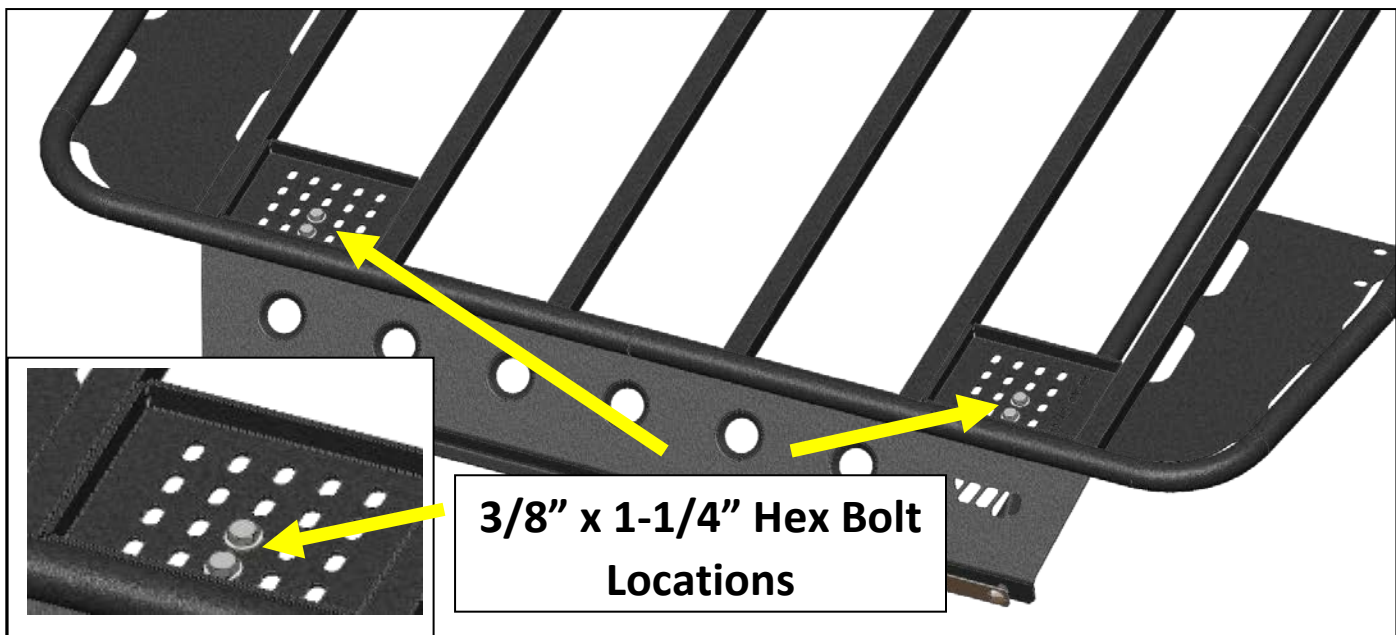

Figure 1 – Platform Hex Bolt and Load Plate Locations
11. On one side of the rack, position [4] 3/8" x 1-1/4" hex bolts. First place a washer on each bolt, then proceed to place the bolts through the platform rack in the locations shown below (**Figure 1**). The bolts ***MUST*** be placed through the 2 ***outer-most*** mounting slots closest to the bed rail. For best load distribution, the front-to-back placement of the bolts should be through the center row (of 5) as shown. However, if you have a particular application in which you would like to shift the platform forward or backward on the mounts, you may use alternate rows of mounting slots (be aware the bolts must always be in the ***outer-most*** slots, and that the weight distribution of the loaded rack may be uneven, and potentially less stable). On the underside of the mount place a washer on each bolt and loosely thread on the Nyloc nuts.
3. Locate the "long" slots on the Tie Bar end plates and slide them over the Carriage Bolt thread between the washer and the Bed Rack Mount. See **Fig. 1**.
4. Rotate the Tie Bar up so that the second "short" slot is aligned with the second Carriage Bolt thread. See **Fig. 1**.
5. Slide the Tie Bar "short" slot over the second set of Carriage Bolt threads (with the end plate between the washer and the Bed Rack Mount). Slide the Tie Bar until the slot is fully seated against the Carriage bolt threads. The end plate should be positioned as shown, with the Tie Bar centered between the Carriage Bolt threads. See **Fig. 1**.